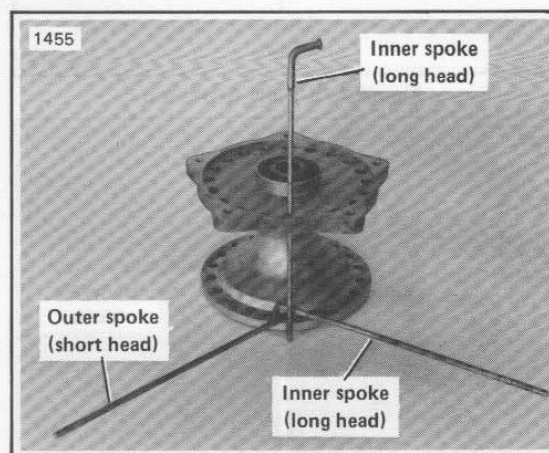

Figure 2-14A. Lacing 19" Wheel
2. See Figure 2-14A. Place hub on bench either side up. Insert one outer spoke (short-head) into any bottom flange hole and swing it clockwise. Insert an inner spoke (long-head) in the next hole to the left of the outer spoke. Swing the inner spoke counter-clockwise over the outer spoke.
3. See Figure 2-14A. Insert an inner spoke into the hole on the top flange that directly bisects the two spokes in the bottom flange. Insert all remaining spokes in both hub flanges alternating the inner and outer spokes.